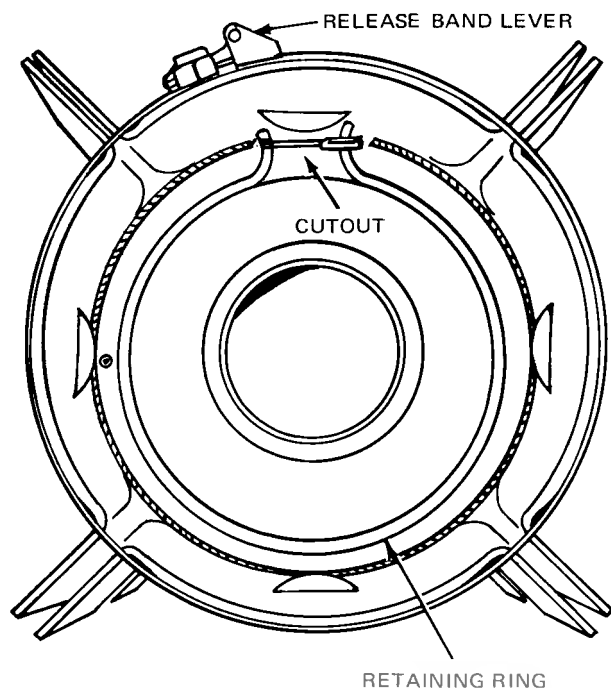
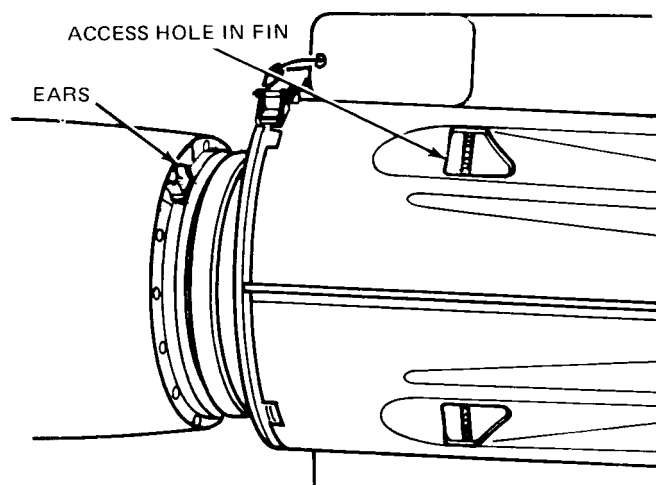

Figure 3-30. Relationship of Cutout in Flange to Release Band Lever
Figure 3-31. Fin Oriented to Bomb Body
7. With ears of retaining ring in proper position, orient fin to bomb body. Cutout in fins support must align with ears of retaining ring (figure 3-30). (See also figure 3-31.)
1. Check relationship cutout in fin support release band lever. Relationship must be as shown in figure 3-31.
7. With ears of retaining ring in proper position, orient fin to bomb body. Cutout in fin support must align with ears of retaining ring (figure 3-30). (See also figure 3-31.) Press fin against bomb body. Ensure that index pin engages index hole in bomb body.